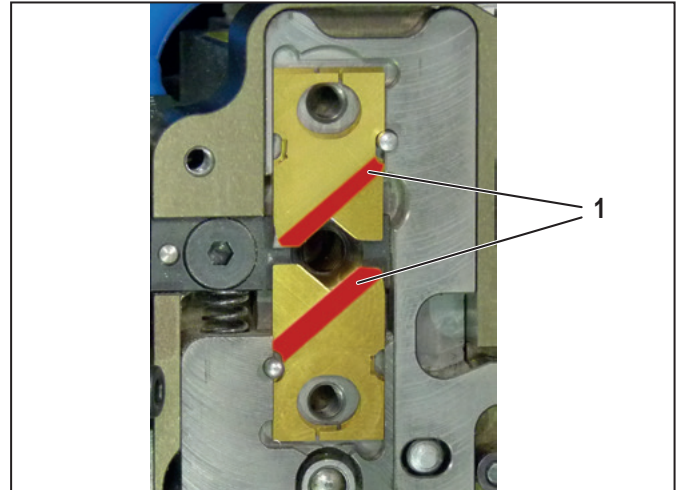

Figure 8.2 Insert blades
- ▶ Assemble each blade pair so that the bevelled edges point outwards (marked red in Figure 8.2).